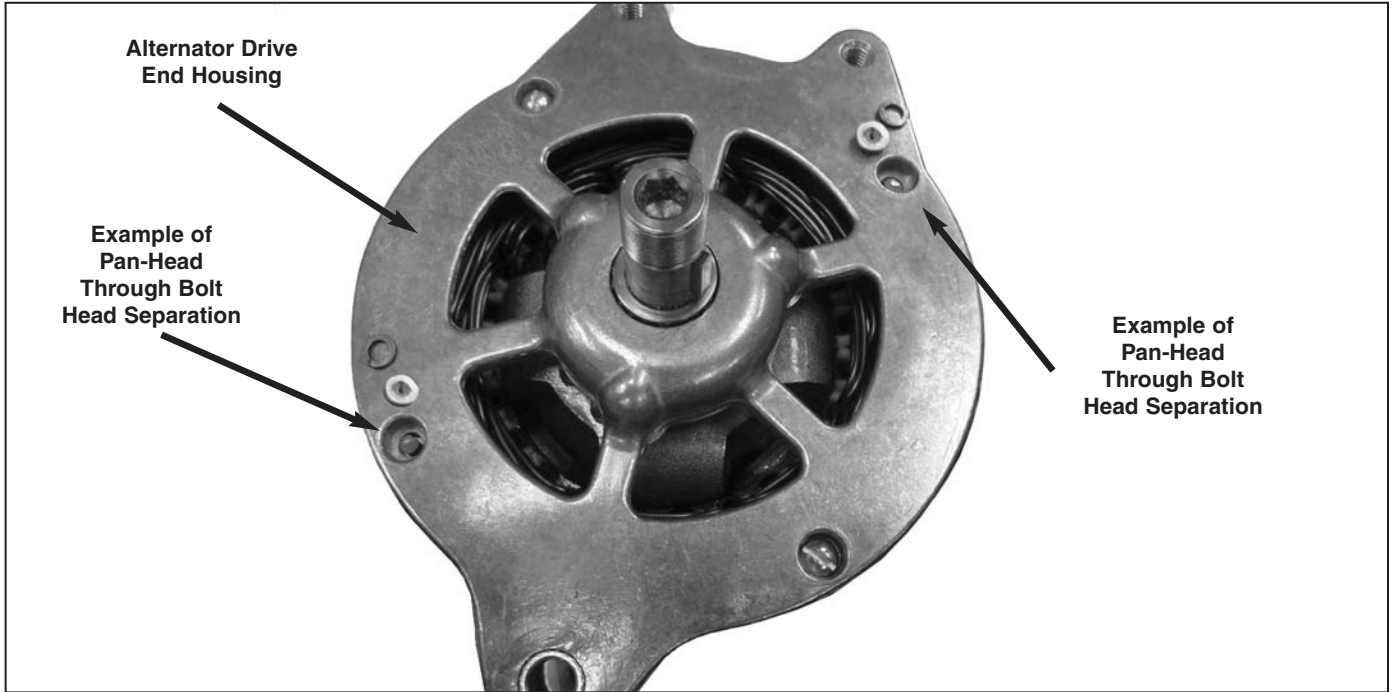

Figure 1 - ALX-8521LS Pan-Head Through Bolt Head Separation Example Shown with Fan Removed.
- (1) Affected serial numbers of alternator model ALU, ALX, and ALY may have a pan-head style HET P/N ALA-0020G through bolt installed. These pan-head through bolts have had incidences of bolt head separation. Refer to Figure 1.